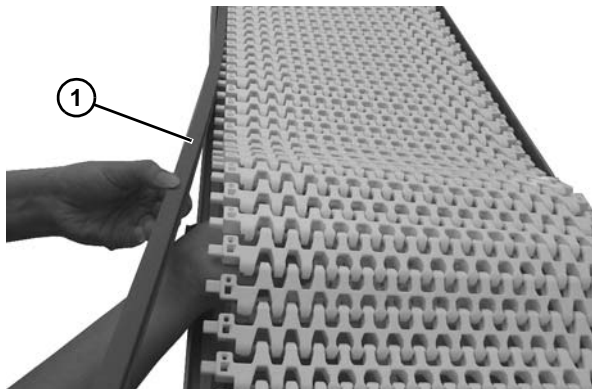

Figure 32
1. Lift belt off of frame and remove each edge strip (Figure 32, item 1) from side tabs of belt.